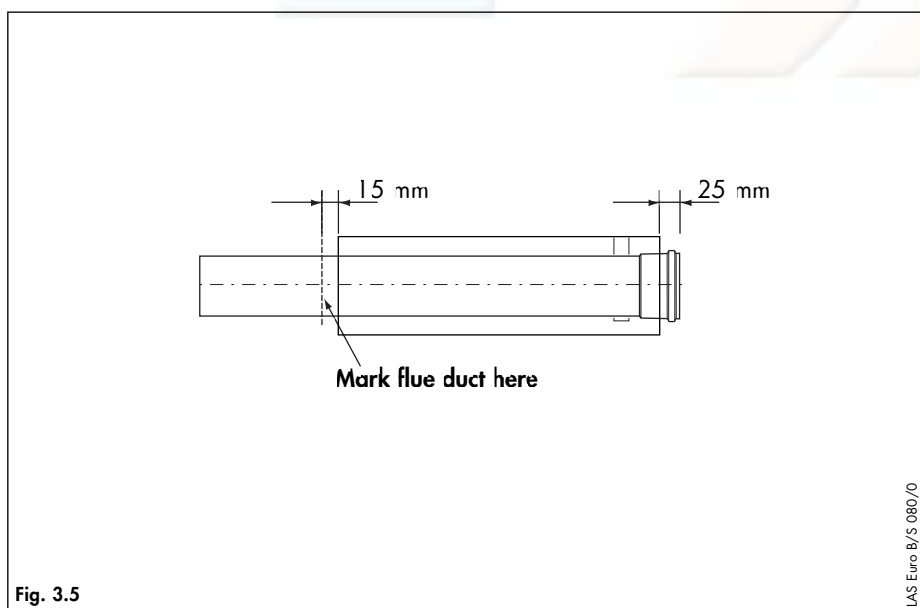

Fig. 3.5
- Cut the flue duct as detailed in fig. 3.5.